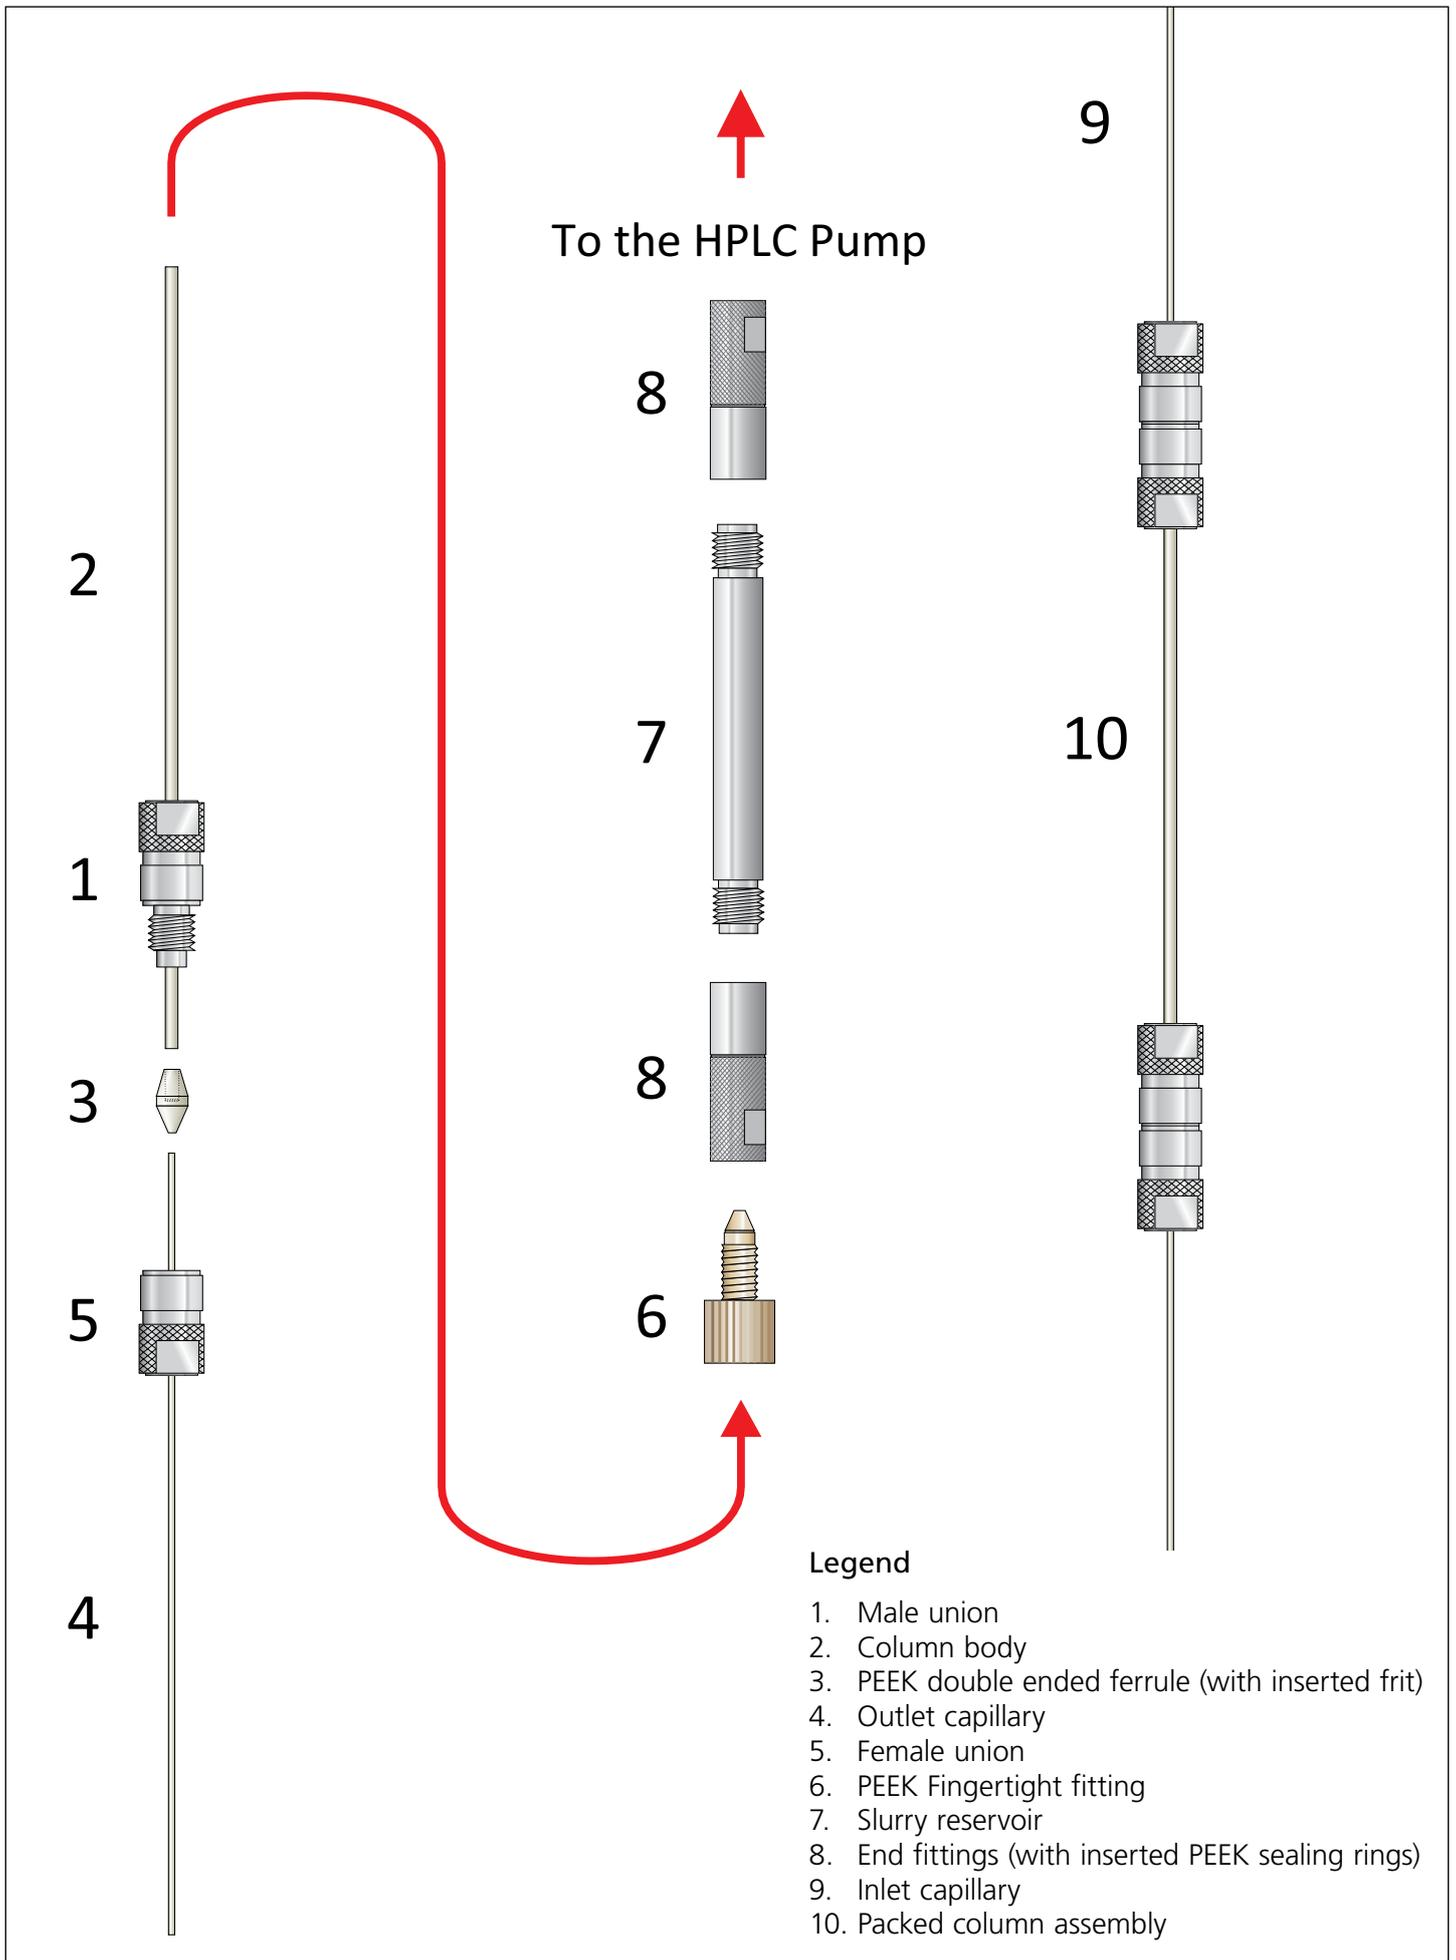

Figure 1. Assembly of column body, outlet capillary and slurry reservoir for packing; then assembly of packed column with inlet capillary.
A. Assembling Column Body, Outlet Capillary and Slurry Reservoir for Packing (Figure 1)
1. Slide a male union (1) onto a 1/16" PEEKsil column body (2) with the thread of the male union facing towards the near end of the column.
2. After checking that the frit is still in place within the double ended ferrule (3), insert the end of the column into the 1/16" opening of the ferrule.
3. Holding the double ended ferrule (3), gently push the male union (1) up the shaft of the column body (2) until it meets the double ended ferrule.
4. Place the column body on the bench while preparing the outlet capillary (4).
5. Slide a female union (5) onto the PEEKsil outlet capillary (100 mm in length) (4) with the thread of the female union facing towards the end of the capillary that will be connected to the male union (1).
6. Insert the end of the PEEKsil outlet capillary (4) into the outlet opening of the double ended ferrule (3) at the end of the column body (2).
7. Gently push the female union (5) up the shaft of the outlet capillary (4) until it engages with the male union (1). Turn the union to engage the threads.
8. Gently push the column body (2) and outlet capillary (4) towards each other, to ensure that each capillary end is against the stop inside the double ended ferrule (3); then tighten the male union (1) and female union (5) until they are finger tight.
20. After the pump was been switched off, wait for the system pressure to dissipate completely before removing the column body (2) from the slurry reservoir (7).
21. Examine the top of the column body (2) to check that it is fully packed.
D. Assembling Packed Column with Inlet Capillary (Figure 1)
22. Slide a male union (1) onto the packed column assembly (10) with the thread of the male union facing towards the near end of the column.
23. After checking that the frit is still in place within the double ended ferrule (3), insert the end of the column into the 1/16" opening of the ferrule.
24. Holding the double ended ferrule (3), gently push the male union (1) up the shaft of the packed column (10) until it meets the double ended ferrule.
25. Place the packed column on the bench while preparing the inlet capillary (9).
26. Slide a female union (5) onto a PEEKsil inlet capillary (250 mm in length) (9) with the thread of the female union facing towards the end of the capillary that will be connected to the male union (1).
27. Insert the end of the PEEKsil inlet capillary (9) into the inlet opening of the double ended ferrule (3) at the end of the packed column (10).
28. Gently push the female union (5) up the shaft of the inlet capillary (9) until it engages with the male union (1). Turn the union to engage the threads.
29. Gently push the packed column (10) and inlet capillary (9) towards each other, to ensure that each capillary end is against the stop inside the double ended ferrule (3); then tighten the male union (1) and female union (5) until they are finger tight.